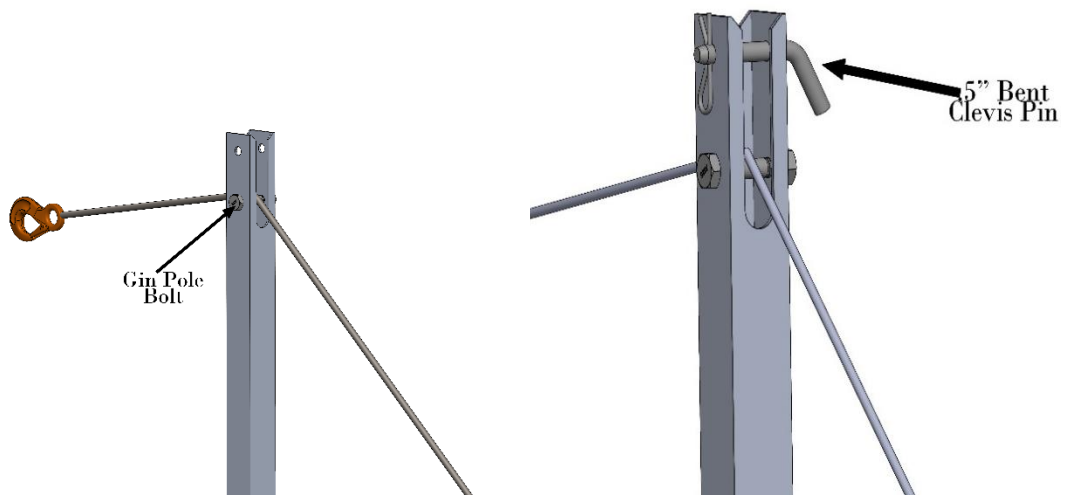

Figure 95 Gin pole bolt and clevis pin
2. Unravel the lift line from the winch so there is enough slack to mount over the gin pole bolt as per Figure 95.
3. On the gin pole, remove the cotter pin and the gin pole clevis pin and feed the lift line from the winch to the top of the gin pole bolt then replace the gin pole clevis pin and re-insert the cotter pin onto the gin pole clevis pin as per Figure 95.